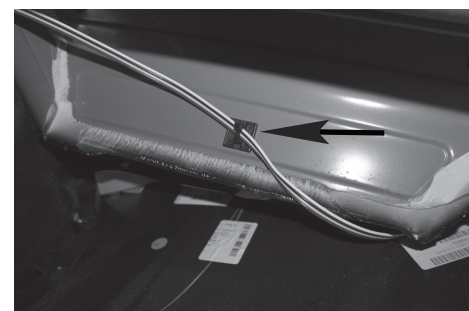

Figure 7
11. Underneath vehicle route 4-Flat wire behind passenger quarter panel to brake line location. Mount a cable tie pad on panel and secure 4-Flat wire shown in **Figure 7** using a cable tie.